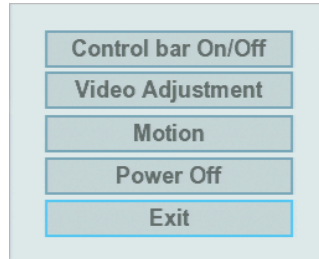

Figure 6. Application Window Shortcut Menu
1. Right-click a pane in the application window. The shortcut menu appears (refer to Figure 6).